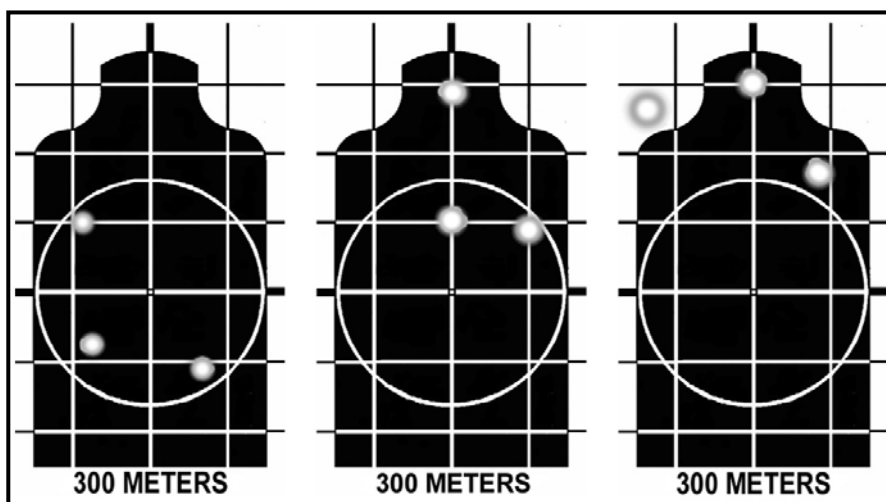

Figure 5-7. Shot groups indicate minor shooting error.
(3) *3-Centimeter Shot Groups.* The targets shown in Figure 5-7 represent minimum acceptable firing performances. A better firing performance should be expected, and the instructor-trainer should ensure the soldier is properly applying the four marksmanship fundamentals. He should explain that this shot group size is not due to weapon or ammunition performance. The placement of shots in these groups (about 3 centimeters apart on the target) reflects minor shooting error. Any of these three shot groups could have been a minor change in sight picture, breathing, trigger squeeze, position or an erratic round.